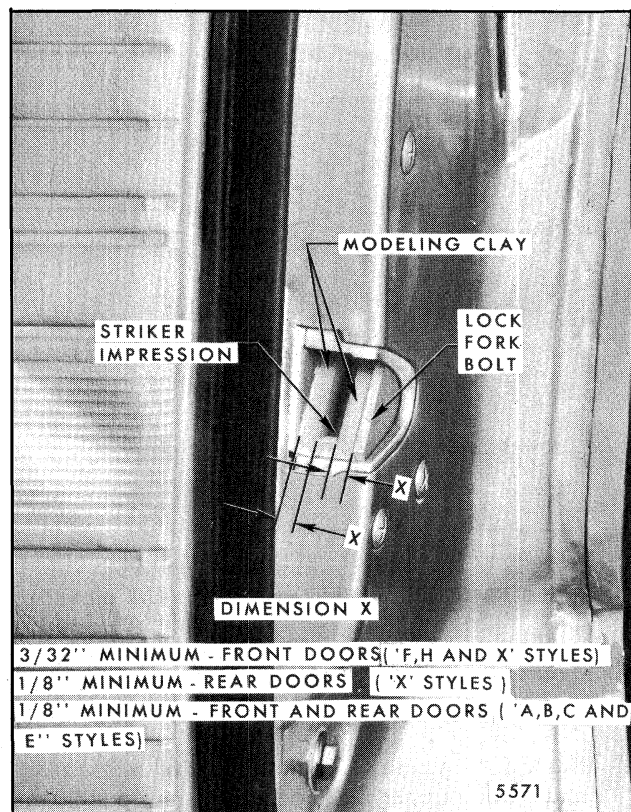

Fig. 5-35-Lock-to-Striker Fore and Aft Adjustment
- b. Apply modeling clay or body caulking compound to lock bolt opening as shown in Figure 5-35.
- c. Close door only as far as necessary for striker bolt to form an impression in clay or caulking compound as shown in Figure 5-35.
- d. Measure striker impressions as follows: striker head should be centered fore and aft as shown, however, some tolerances are allowed. In any alignment, it is important that minimum dimensions as outlined in Figure 5-35 be strictly maintained. The following spacers are available as service parts and can be used individually or in combination to achieve the desired alignment.